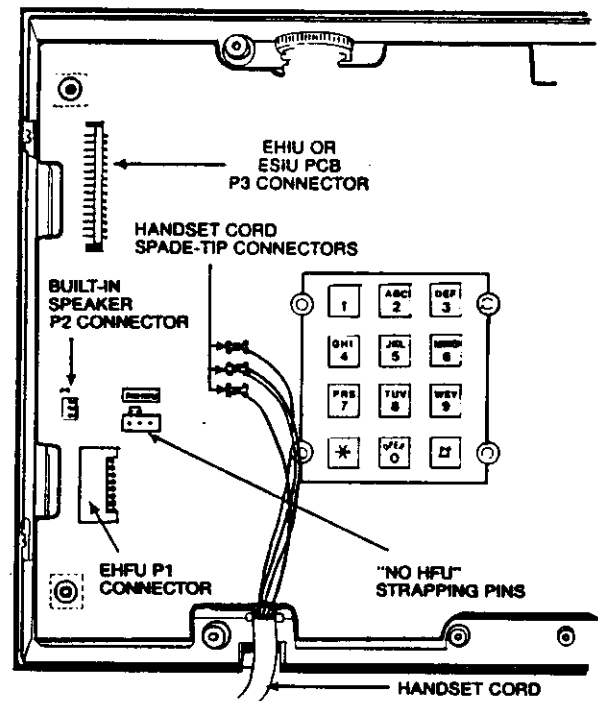
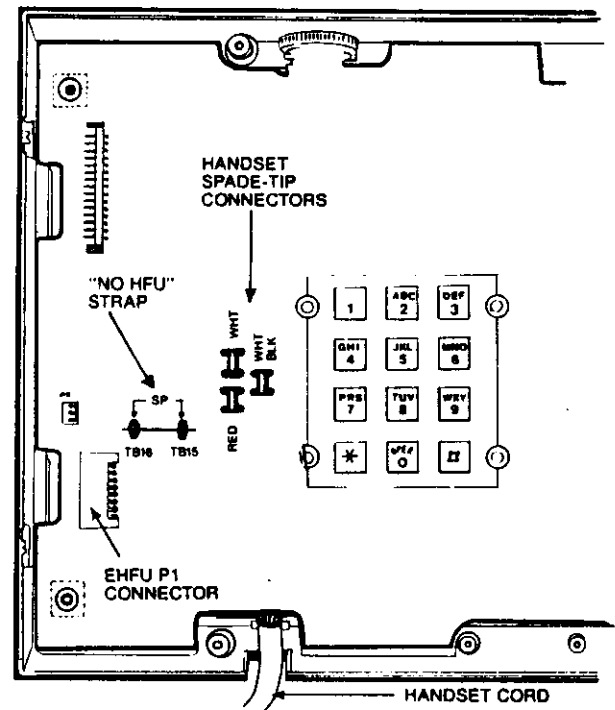

FIGURE 1—LOCATION OF COMMON CONNECTORS ON EKT PCB (LOT NUMBERS "J4" AND LATER)
FIGURE 4—LOCATION OF "NO HFU" STRAP ON LOT NUMBER "J1" EKT
2.1.5 Disconnect the speaker cable from the P2 connector on the EKT PCB. See Figure 1.
2.1.6 Disconnect the handset cord spadetips from the EKT PCB and remove it from the EKT. See Figure 1. If installation of the EHFU PCB is being performed in an EKTW, the handset cord will enter from underneath the EKT PCB. Disconnect the spade-tips from the board. It is not necessary to remove the handset cord from the EKT.
2.1.7 If an EHIU or ESIU PCB has been installed in the EKTD, its connecting cable must be disconnected from the P3 connector. See Figure 1.
3.2 Connect the EHFU connector cable to the P1 connector. See Figure 1. If either an EHIU or an ESIU is present, reconnect its cable to the P3 connector.
3.4 Re-connect the handset spade-tips (connector color codes are printed beside the terminals). See Figure 1. (For "J1" EKT's, see Figure 4.)
3.5 Re-connect the built-in speaker to the P2 connector. See Figure 1.
3.6 The "NO HFU" strapping plug must be moved to pins (2) and (3) on the EKT PCB for the hands-free functions to operate. See Figure 1 for the location of the "NO HFU" strapping pins on "J4" and later EKT's. The "NO HFU" arrows printed on the EKT PCB, point to pins (1) and (2). If the lot number of the EKT is "J1," proceed to paragraph 3.6.2.
3.6.2 Lot number "J1" EKT's do not have "NO HFU" strapping pins. "J1" EKT PCB's are equipped with a soldered wire strap labeled "SP" shown in Figure 4. This strap must be cut for the hands-free feature to function.